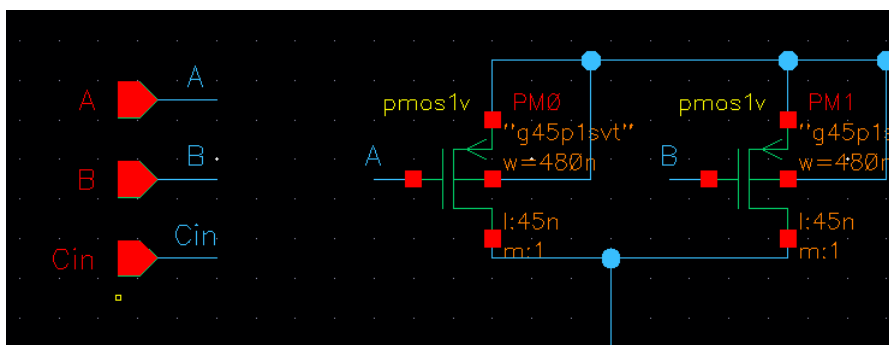

Figure 1: Adding Pins With Labels
- When setting input pins you don't need to put multiple pins! Instead, **create the necessary input pins at the top corner then connect a little loose wire**. Now, press **L** on your keyboard to create labels. You will label these the same as the pin names. Then add little wires on each transistor and label them to their corresponding matching name. A small example is shown in Figure 1.